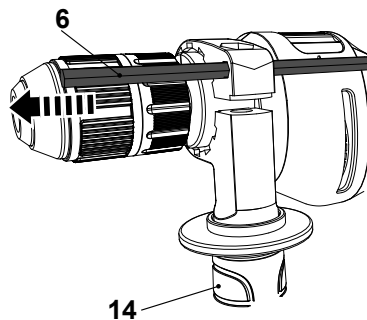

Fig. 4
- > Insert the depth stop (6) through the hole as indicated. (Fig. 4). Make sure the rippled part is on the bottom side.
- > Align the tip of the depth stop (6) with the drill tip. Now pull the depth stop (6) back by the required drilling depth.
- > Tighten the auxiliary handle (14) to fix the depth stop (6).